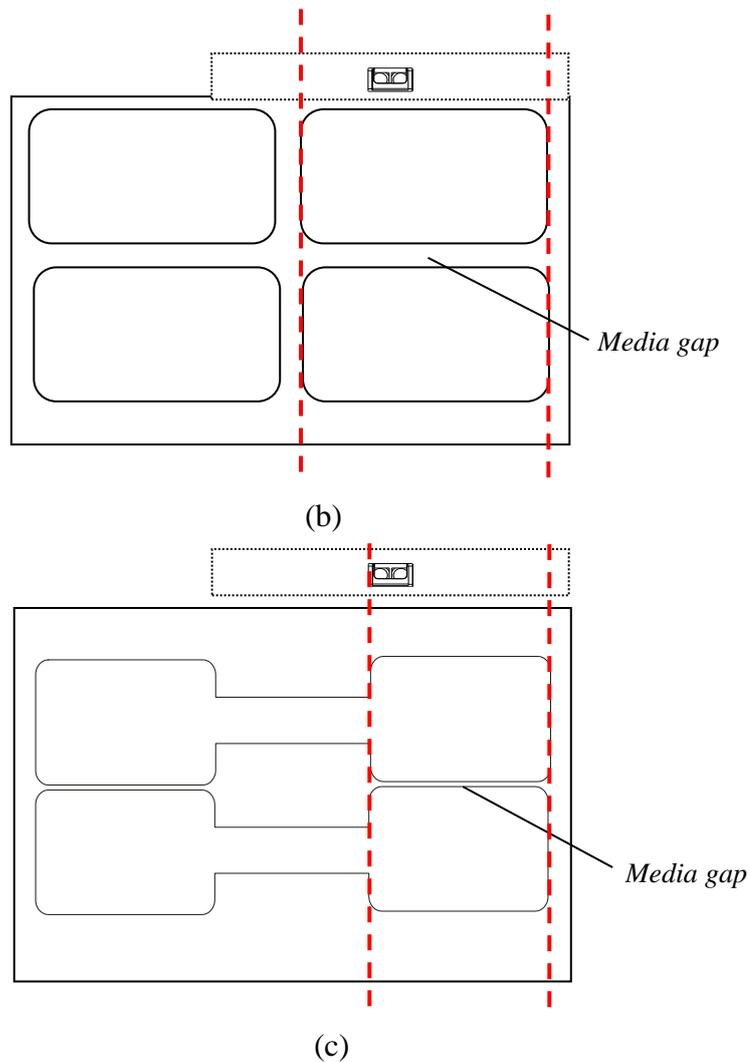

Figure 2-14 Media Sensor Position
- Please refer to Figure 2-14(a) (b) (c) to adjust the position of the sensor for different media types as shown, the sensor shall be placed between the dotted lines.